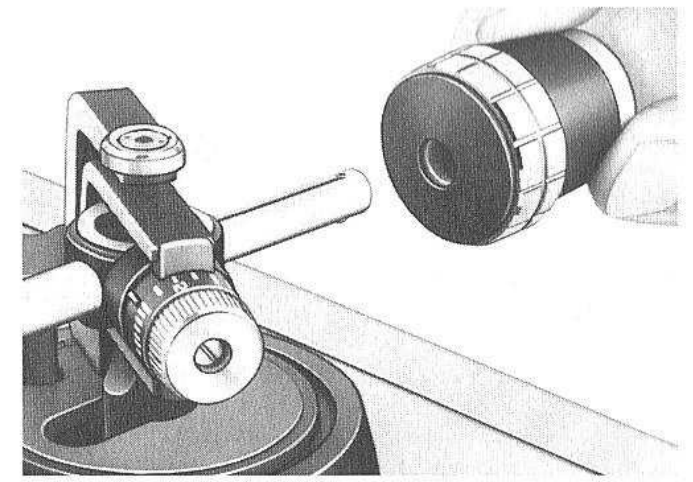

Fig. 3
- Turn the tonearm counterweight **3** on the rear end of the tonearm (fig. 3).